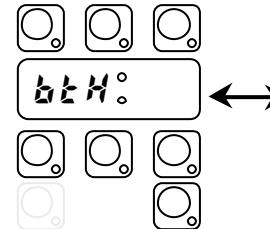
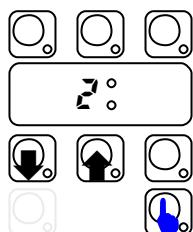

Fig. 5.4
Fig. 5.5
- Press CYCLE INFINITE key to confirm. The display shows the next parameter (Fig.5.4) and the corresponding value (Fig.5.5);